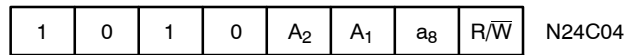

Figure 3. Slave Address Bits
The Master initiates data transfer by creating a START condition on the bus. The Master then broadcasts an 8-bit serial Slave address. For normal Read/Write operations, the first 4 bits of the Slave address are fixed at 1010 (Ah). The next 3 bits are used as programmable address bits when cascading multiple devices and/or as internal address bits. The last bit of the slave address, R/W, specifies whether a Read (1) or Write (0) operation is to be performed. The 3 address space extension bits are assigned as illustrated in Figure 3. A2 and A1 must match the state of the external address pins, and a8 is internal address bit.